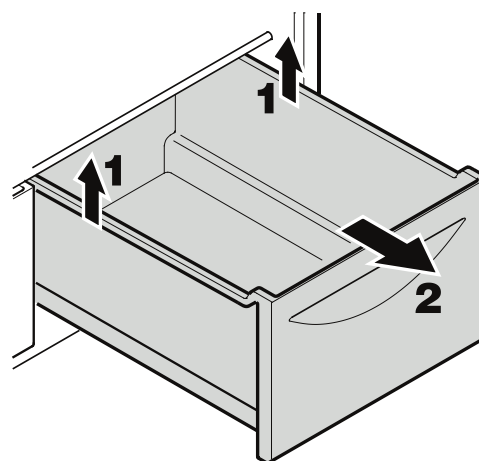

Figure 15
Pull the drawer straight out, grip at the back and lift out - *Figure 15.*
- Remove the vegetable drawers as shown in **Figure 15**.